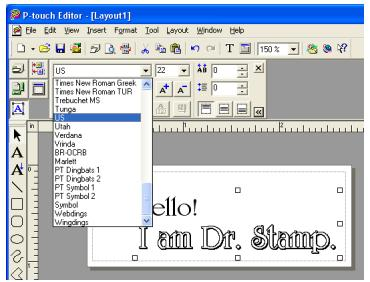

figure 7
- ① Display the Text Properties.
- ② With the Select tool, click the block of text to be changed in the stamp layout. Handles appear around the text block.
- ③ From the “Font” drop-down list, select the desired font (see figure 7).